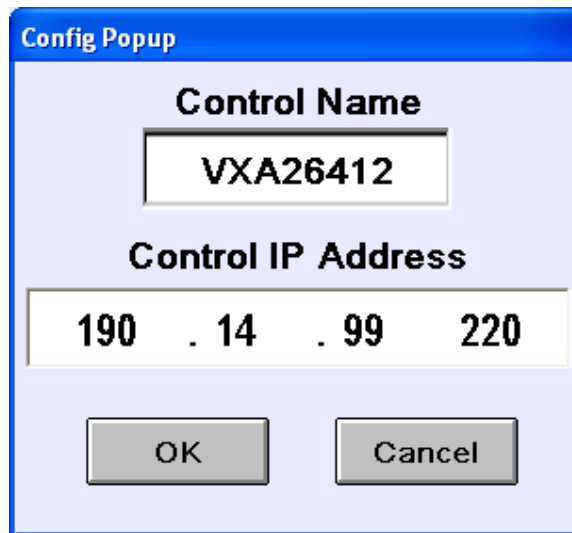

Figure 3-39. Add Control Configuration Pop-up
- b. Go to the System Configuration screen shown in Figure 3-29 and select Add Control to List. In the configuration pop-up, enter the appropriate Control Name and IP Address as shown in Figure 3-39.